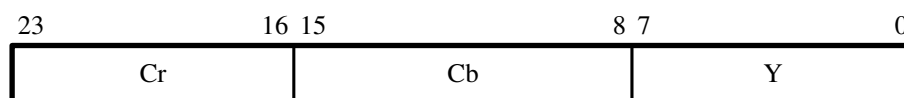

Figure 22. YCrCb 4:4:4 Color Space.
- **YCrCb 4:4:4** — This format is the normal YCrCb with all components as shown in Figure 22. This mode is defined as 8 bits per color and three color planes.